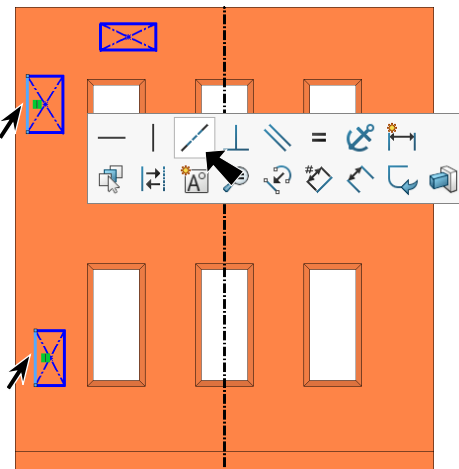

Fig. 57
Step 8. **Ctrl click the left side line of both rectangles on left side** to select both. Release Ctrl key and click **Make Collinear**  on the context toolbar, **Fig. 57**.